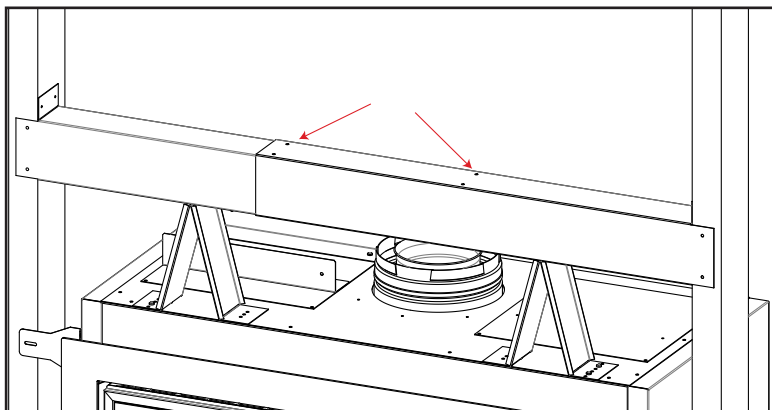

Figure 29: Steel Stud Attachment
- Using the provided sheetmetal screws, attach the two steel stud pieces together using the labeled holes in Figure 29. This should be done on the top and bottom of the steel stud to ensure its rigidity.